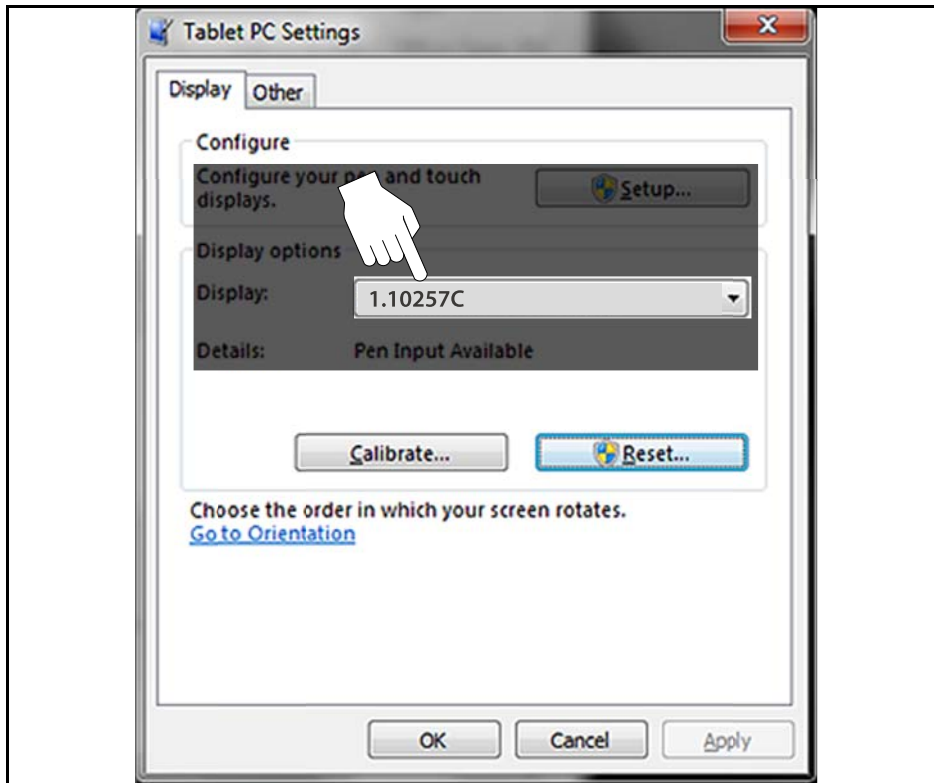

Figure 1-14 Typical - Tablet PC Settings window
The Tablet PC Setting window is displayed (*Figure 1-14*).
2. Select the diagnostic tool display from the dropdown list. The current default diagnostic tool display number "1.10257C" is shown in *Figure 1-14* as an example.